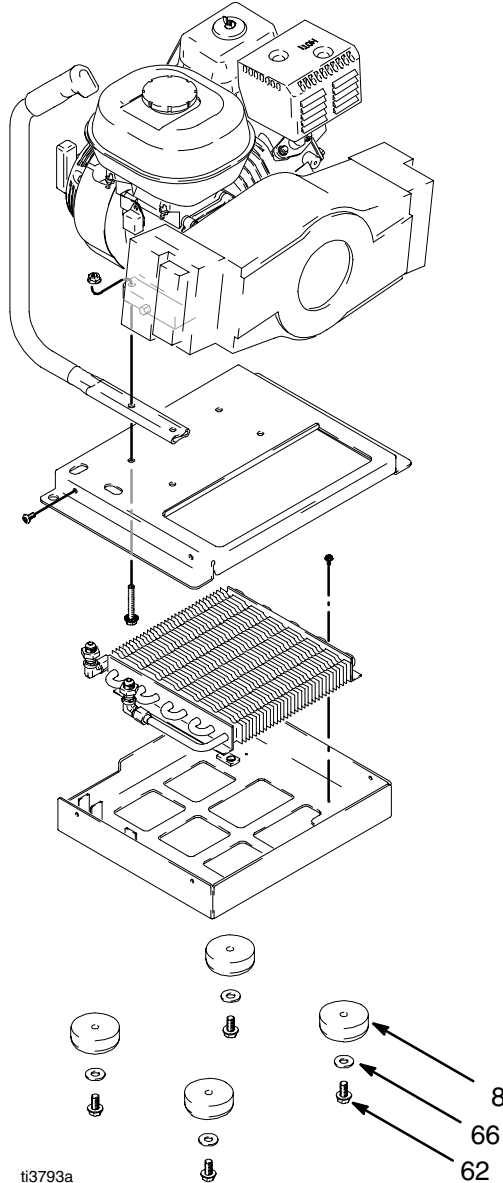

Fig. 23
4. Remove 9/16 bolt (62) and washer (66) from center of each rubber foot (8). Fig. 23.